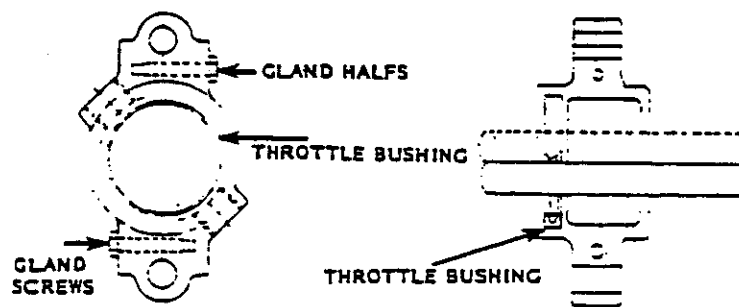

FIG. 7.
d. With the packing and lantern ring installed, position one half of the two-piece packing gland on the shaft. Insure that non-sparking bushing enters machined groove at outboard end of gland half. Positoin the other half of the packing gland over the first and fasten the gland half together with the packing gland clamp screws (FIG. 7).